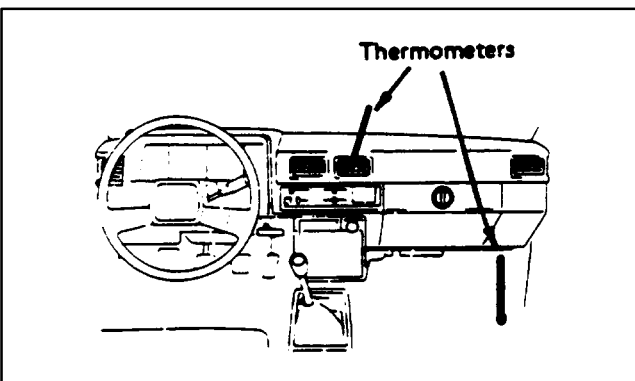
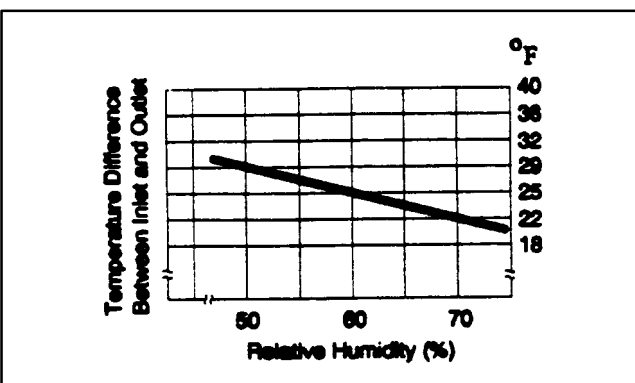

Figure 14
Figure 15
- (13) Position thermometers. **(Figure 14)**
- (14) Check performance of A/C system.
- (ii) Check that the intersection of the relative humidity and temperature difference is above the line shown. If the intersection is above the line, cooling performance is satisfactory. **(Figure 15)**
- (15) If A/C performance is unsatisfactory, check other components and repair according to repair manual under warranty or at customer's expense (with consent).
- (16) Install SSC completion label as directed on Page Celica-11.